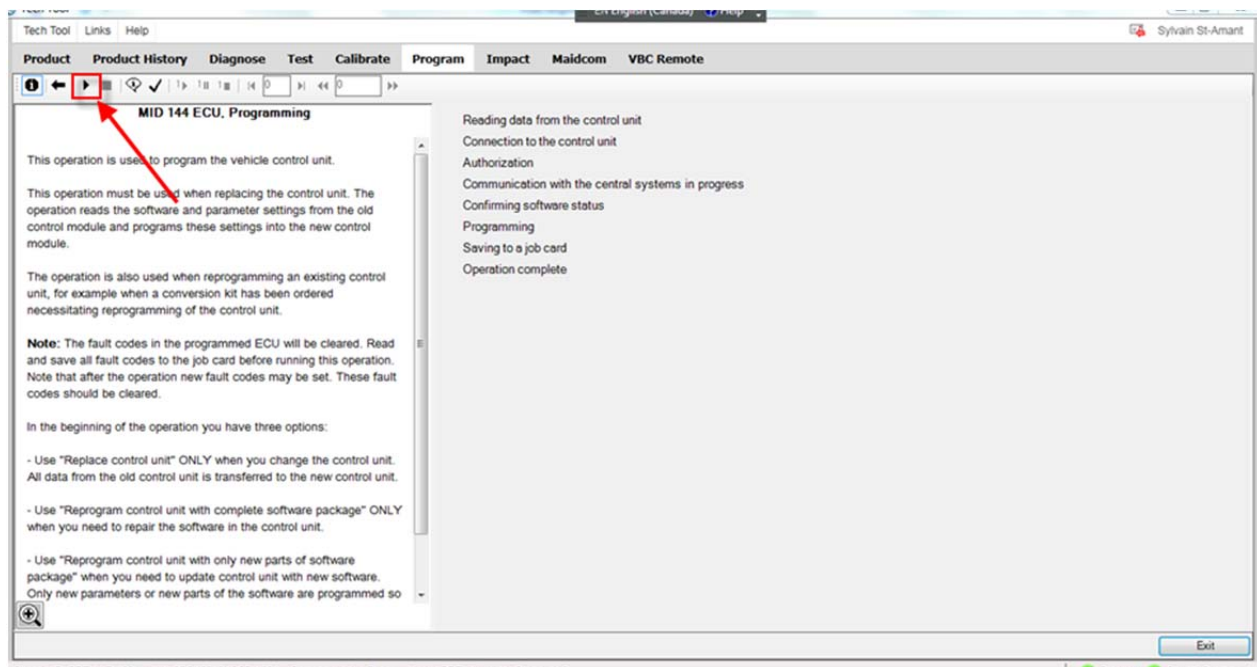

FIGURE 20
2. Click ► (play) (FIGURE 20).